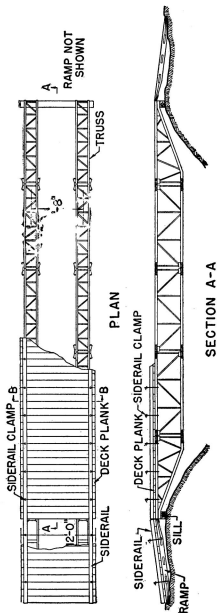

FIGURE 116.—Light portable steel bridge (H-10).
c. The *light portable steel bridge* (H-10) (figs. 116 and 117) consists of two trusses (assembled by manpower, in lengths up to 72 feet) supporting a one-track timber deck. The 12-